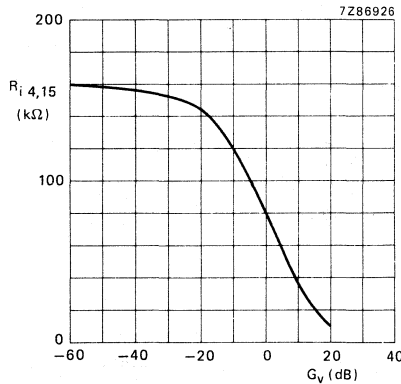

Fig. 4 Input resistance (R_i) as a function of gain of volume control (G_v). Measured in Fig. 1.
1. Equation for input resistance (see also Fig. 4)